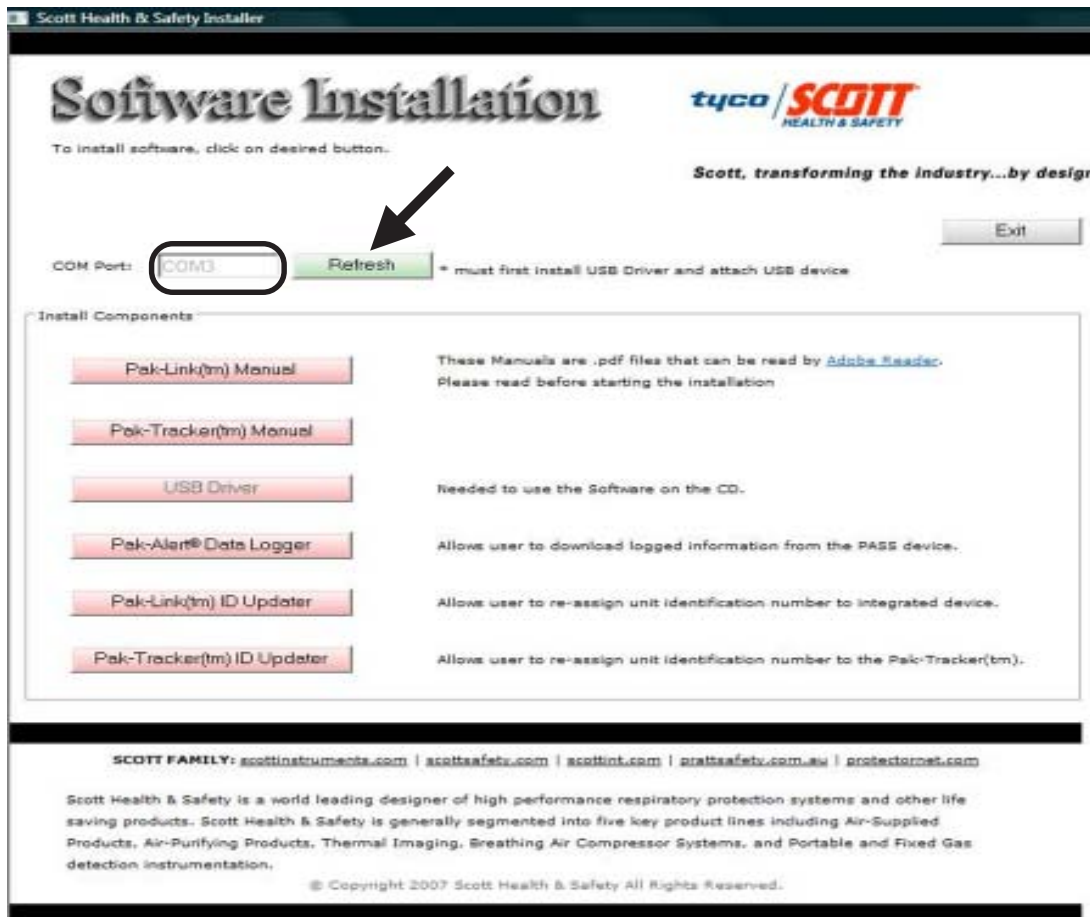

FIGURE 4
5. Next to "COM Port," click the "Refresh" button to display the COM Port that has been assigned to the USB Connection. See FIGURE 4.
6. Make a note of the number of the COM Port that appears. See FIGURE 4.